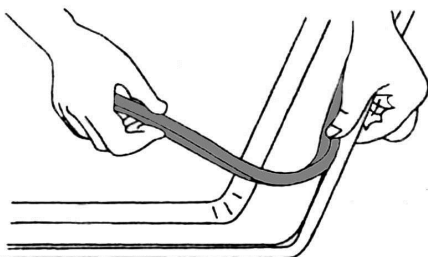

Figure 5
- 1 Before inserting the cooktop into the opening in the countertop, remove the grates and burner caps, turn the cooktop upside down and place the special foam gasket around the bottom edge of the cooktop (see Figure 5). It is important to fix this gasket evenly, without gaps or overlapping, to prevent liquid seeping underneath the cooktop.